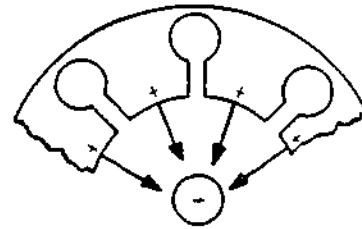

Figure 4-16. The DC (Electric) Field in the Magnetron
4-56. In the magnetron, figure 4-16, the electric field (DC) is between the anode and cathode. A high-negative potential applied to the cathode makes the anode positive with respect to the cathode, and the direction of the electric field (DC) is from the anode to the cathode.